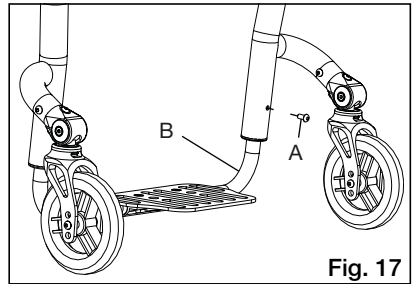

Fig. 17
Height adjustment of your footrest (Fig.17):
1. Locate the set screw on each side of the frame (Fig. 17:A).
3. Adjust footrest tube up or down to achieve the desired height (Fig. 17:B).